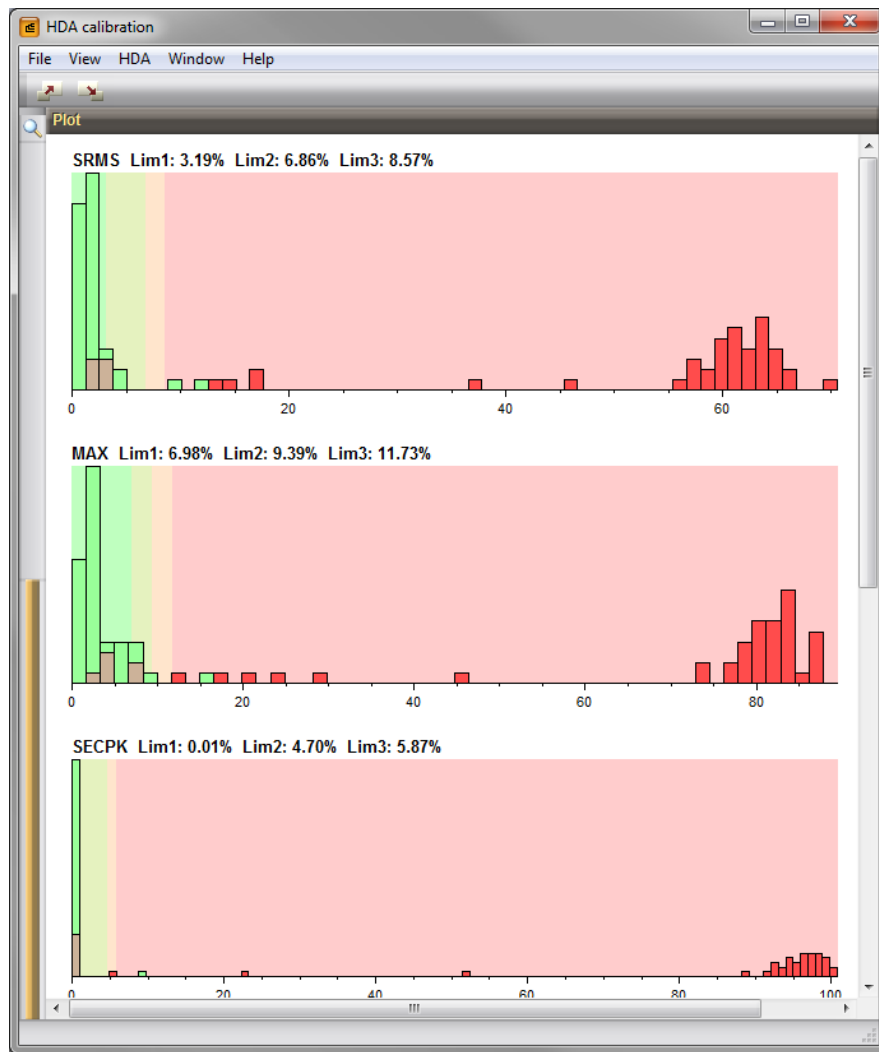

Figure 3.34: The *Parameter calibration histogram window*.
- 16.2 Select for example "Target1Dye1" and press <**OK**>. The result is shown in Figure 3.34.